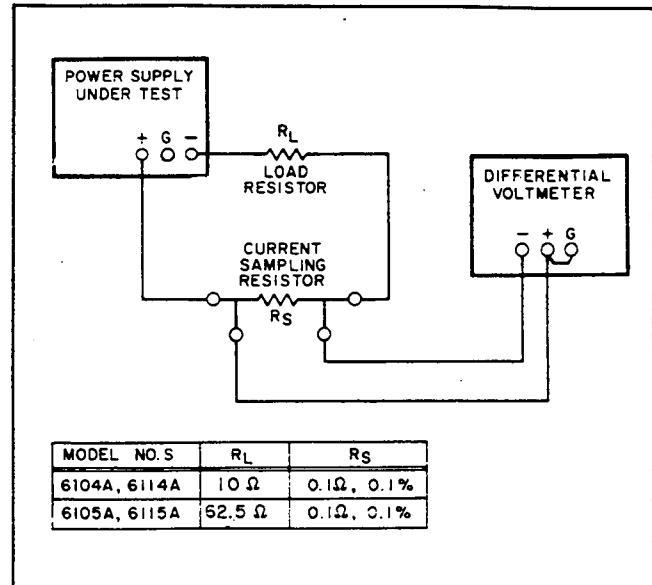

Figure 5-9. Constant Current Load Regulation Test Setup
- a. Connect test setup shown in Figure 5-9.
- a. Utilize test setup shown in Figure 5-9.